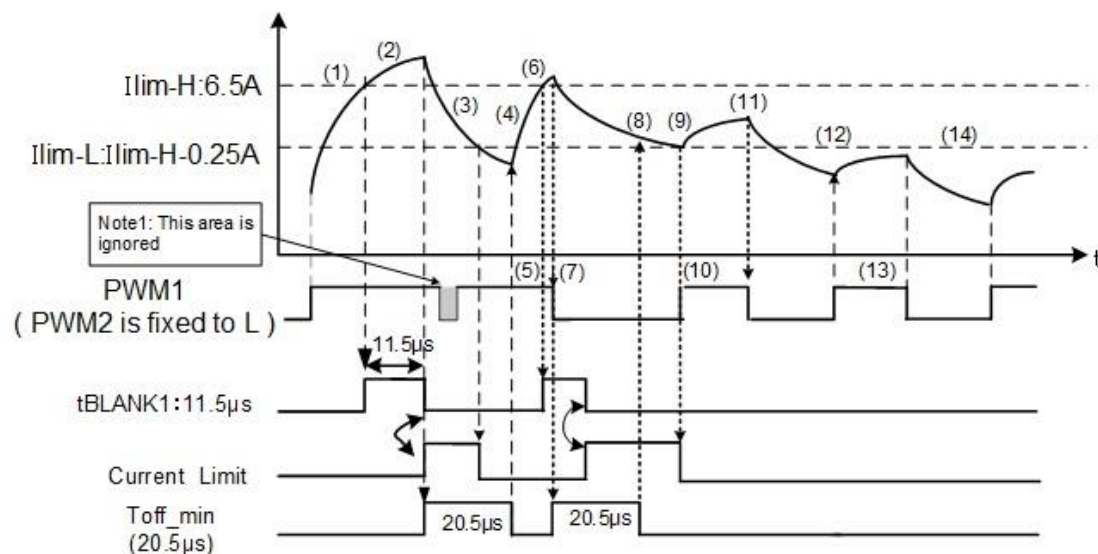

Figure 7.14 Chopper-type current-limit control
7.7.1. Chopper-type current-limit control (basic operation) (Figure 7.14)
- (1) Large current is detected at I_{lim-H} (6.5 A).
- (2) The blanking counter starts counting at the detection. Since a current above I_{lim-H} (6.5 A) still flows in this case, the current limit signal rises at the falling edge of t_{BLANK1} after a blanking time ($t_{BLANK1}: 11.5\ \mu\text{s}$).
- (3) After the blanking, the motor drive output automatically enters a short-brake mode (low side simultaneous ON) for current regeneration. At the same time, T_{off_min} rises to H to start counting.
- (4) After a T_{off_min} period ($20.5\ \mu\text{s}$), if the current is below I_{lim-L} , normal operation (forward rotation) resumes.
- (5) Since PWM1 is H, the motor drive current increases. In this case, the PWM1 signal indicated by Note 1 is ignored (T_{off_min} is prioritized).
7.7.2. PWM signal input during forward rotation (Case 1) (Figure 7.14)
7.7.3. PWM signal input during forward rotation (Case 2) (Figure 7.14)
- (11) At the falling edge of PWM1, short-brake mode begins.
- (12) When PWM1 = H, normal mode resumes.
- (13) Since PWM1 is still H, the motor drive current increases.
- (14) When PWM1 = L, the operation becomes short-brake mode, and the motor drive current decreases.